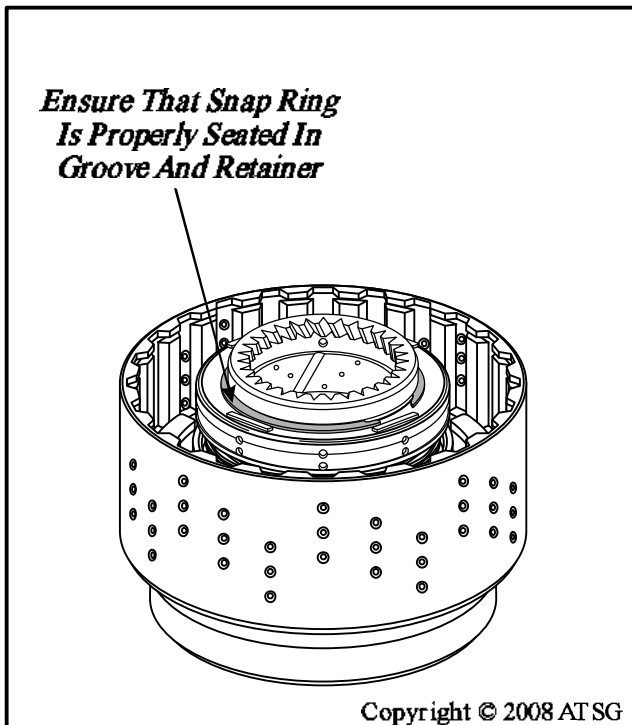

Figure 118
11. Ensure that snap ring is fully seated in groove and the retainer, as shown in Figure 118.